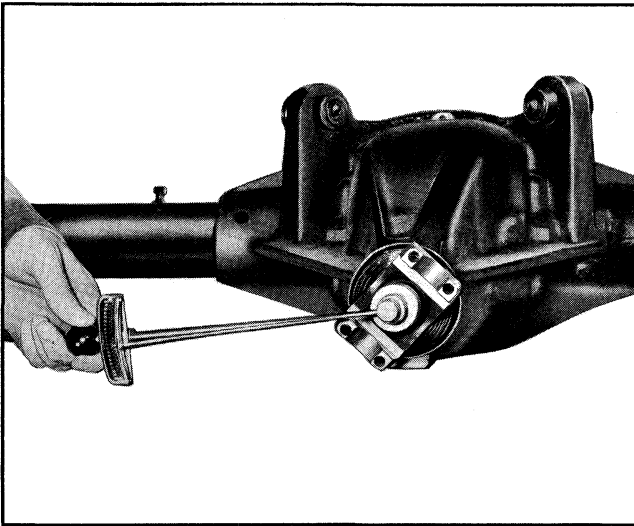

Fig. 4-6 Checking Pinion Bearing Preload
3. Using pound inch torque wrench KMO-652 with adapter KMO-653 and socket placed over drive pinion nut, turn pinion two or three revolutions to ensure free movement, and then take a torque reading while rotating pinion to measure bearing preload (Fig. 4-6). Record reading.
5. Using pound inch torque wrench KMO-652 with adapter KMO-653 and socket placed over drive pinion nut, turn two or three revolutions to ensure free movement, and then take a torque reading while rotating pinion to measure bearing preload (Fig. 4-6). Record reading.